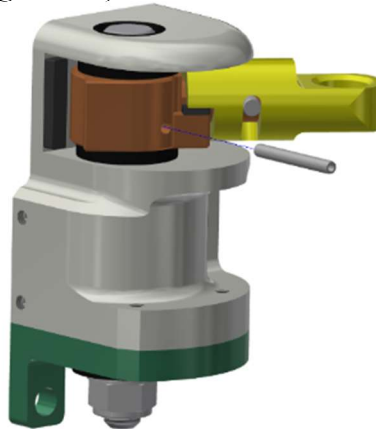

Figure 7-6. Remove the Roll Pin from the Scapula Link Clevis (474-3507-1,2)
- 7.2.3 Remove the M3 X 24 LG. Roll Pin from the Scapula Link Clevis (474-3507-1,2) (Figure 7-6).